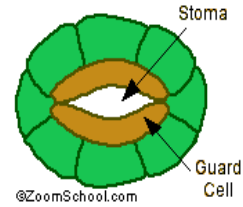

Figure 5.
**GUARD CELL** is a crescent-shape that control the size of the opening of the stoma using turgor pressure. This changes the amount of water vapor and other gases that can enter and leave the plant. Refer to Figure 5.